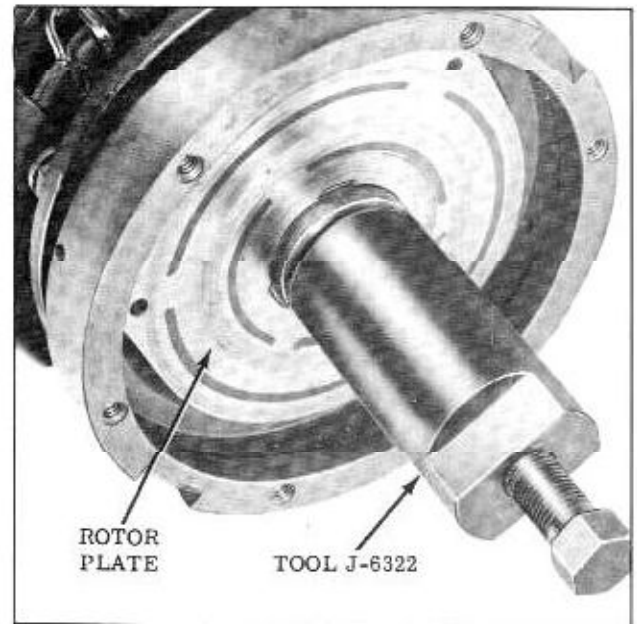

Fig. 14-26 Removing Clutch Rotor Plate
2. Thread Tool J-6322 onto hub of rotor plate. While holding the tool with a wrench, tighten the tool bolt to remove clutch rotor plate. (Fig. 14-26)